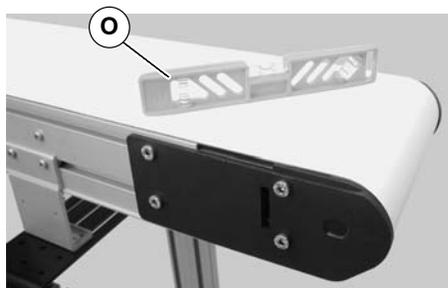

Figure 3
**NOTE:** Conveyor **MUST** be mounted straight, flat and level within confines of conveyor. Use a level (O of Figure 3) for setup.